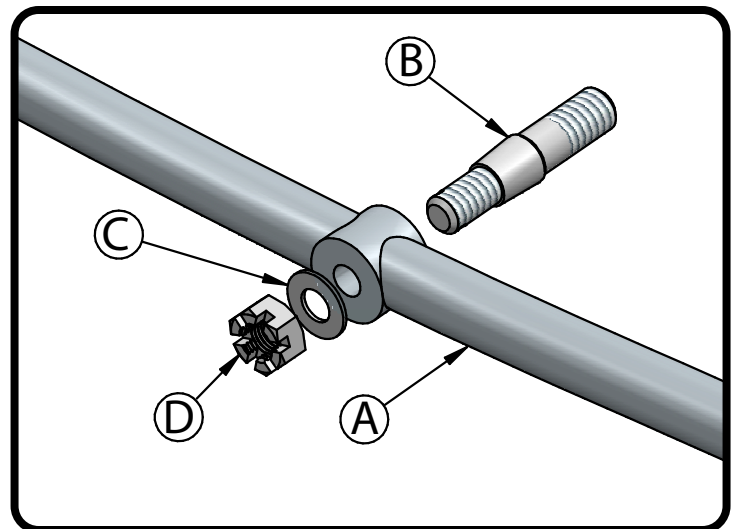

Figure 24
**30.** Install the tapered drag link stud (B) into the OEM inner tie-rod hole on the OEM drag link (A). Install a 7/16" Flat washer (C) onto the threads. Thread a 7/16" castle nut (D) onto the threads to hold it in place (Figure 24). **Do not tighten the castle nut yet.** It will be tightened after the drag link adapter is installed on the studs. Install the driver and passenger studs.